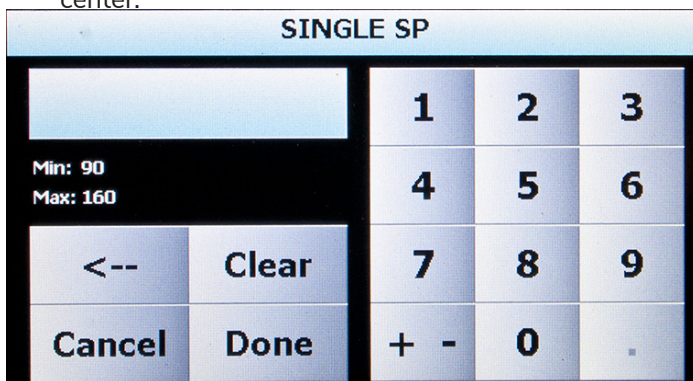

Fig. 44: Set Point Change Screen
2. A keypad appears (Fig. 44). The Minimum/Maximum limits for temperature settings are shown on the left center.